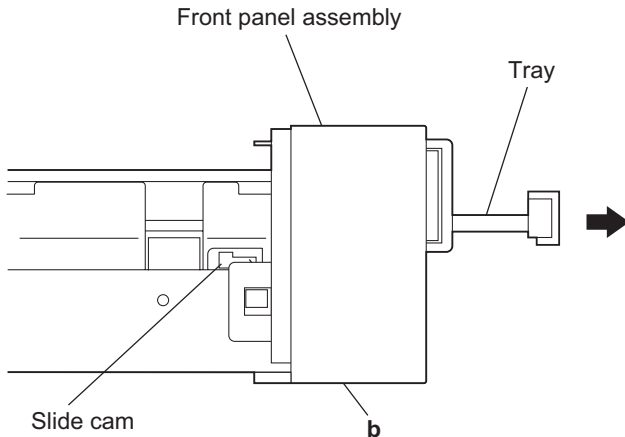

Fig.5
2.1.2 Removing the front panel assembly (See Figs.5 to 8.)
- From the left side of the main body, push the section b of the slide cam using the screw driver, etc. (See Fig.5.)
- Pull out the tray. (See Fig.5.)